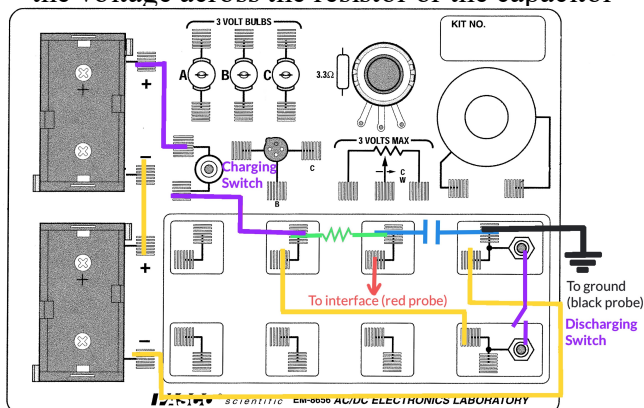

Figure 7: RC circuit layout
The circuit *layout* is shown in Figure 7. Study the diagram carefully until you understand the current paths through the circuit. Note the function of the two pushbutton switches. These only make contact while you depress the button. You must **construct this circuit on the Pasco board using the 3 V battery pair, a 10 k Ω resistor and a 47 μ F capacitor.** (Note that some of the 47 μ F capacitors have a preferred polarity; if one lead on your capacitor is longer than the other, make sure it is on the high-voltage end of the circuit.) **Measure the values of the resistor and capacitor with a DMM:** you will have to wait your turn for an LC meter; **measure and record the capacitance of two of your capacitors;** the second for use in Part H.) and use these measured values rather than
1. **Connect *LoggerPro* across C** as in Fig. 7.